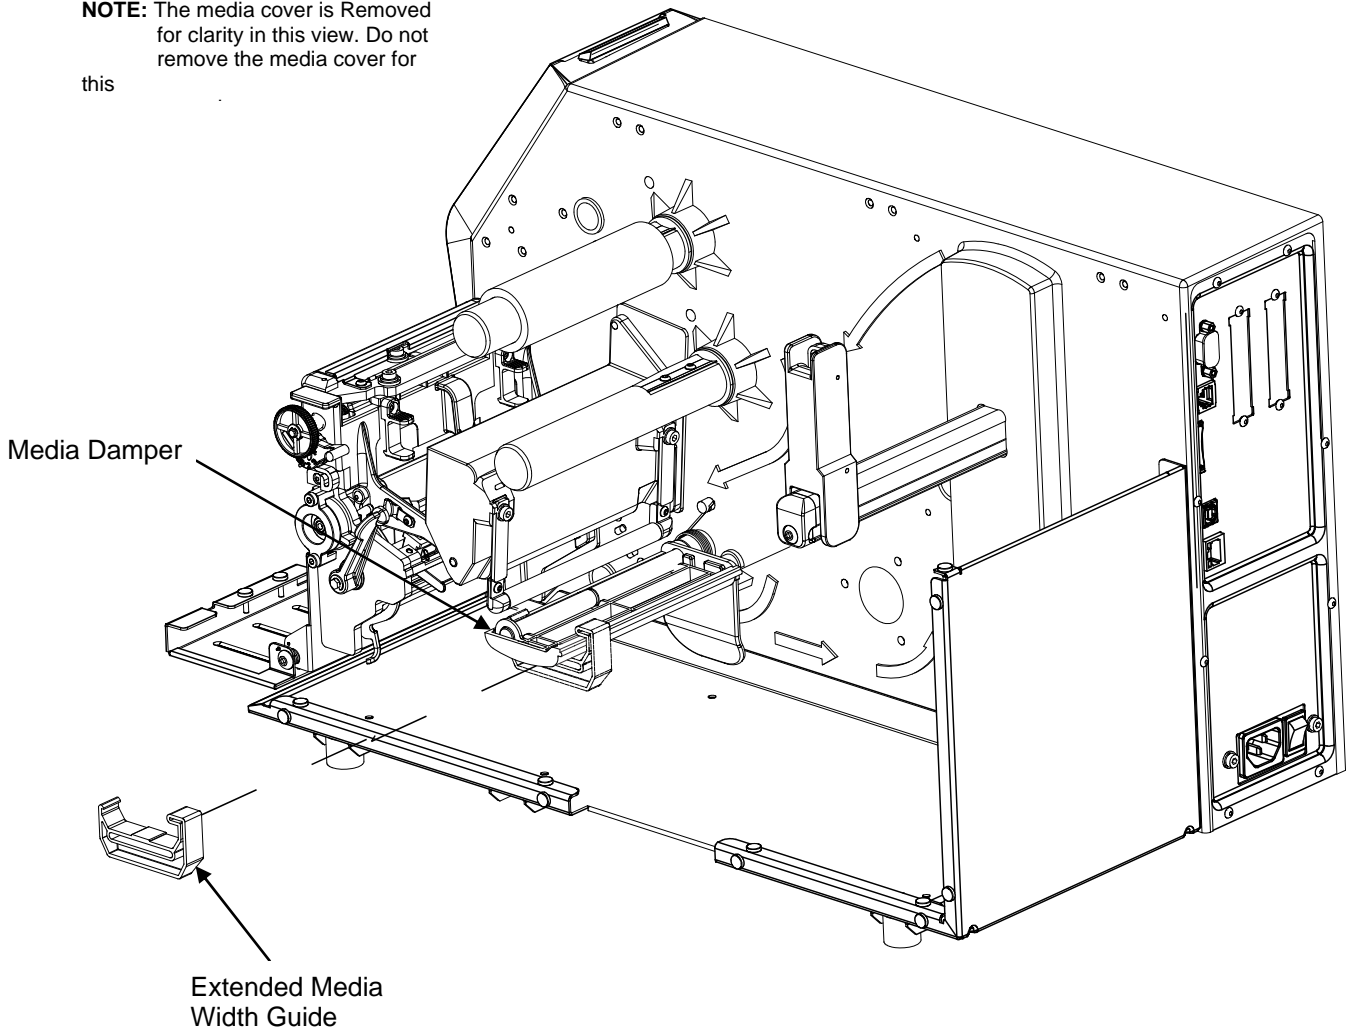

Figure 11 Replacing the Media Width Guide
18. Replace the standard (blue) media width guide on the media damper with the extended media width guide (Figure 11)